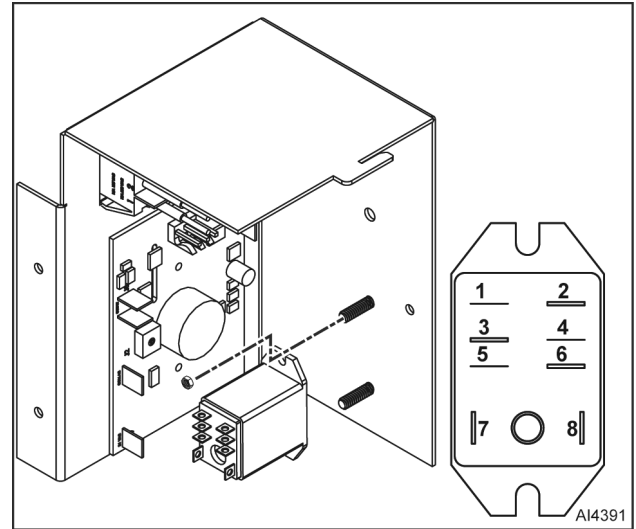

Fig. 11
- Disconnect wires from relay (Fig. 11).